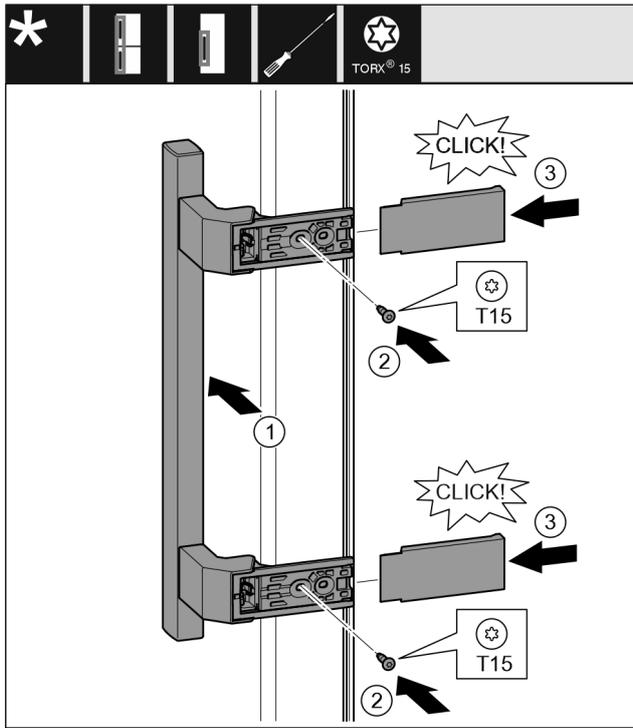

Fig. 29
- ▶ Place the handle on the opposite side. Fig. 29 (1)
- ▶ Use screwdriver T15 to tighten the screws. Fig. 29 (2)
- ▶ Place the covers on the side and push them on. Fig. 29 (3)